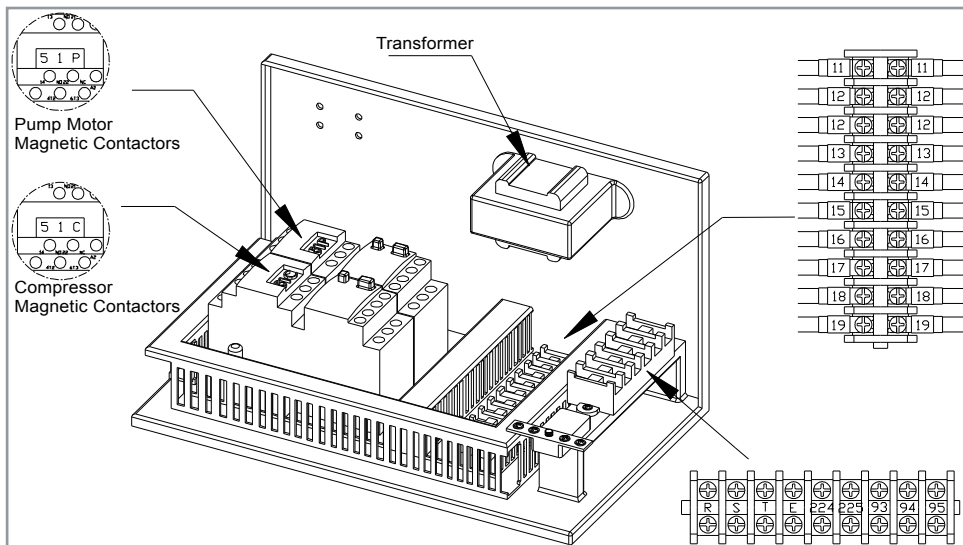

Figure 11
(5) Figure 11 is the electronic components position diagram.